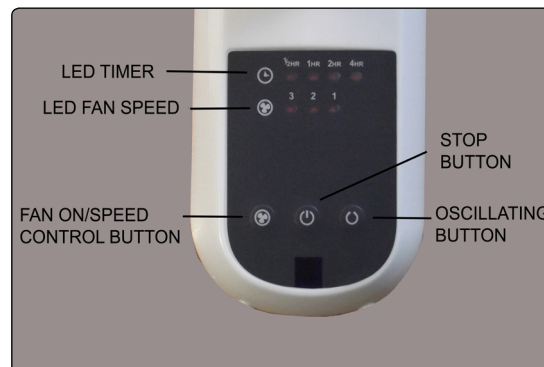

fig.6
- 5.3.1. LED TIMER :- Visual display of time setting can only be set from remote control. fig.6.
- 5.3.2. LED FAN SPEED :- Visual display of speed. fig.6.
- 5.3.3. FAN ON/SPEED CONTROL BUTTON :- Press to switch on, press again to scroll through speed settings. fig.6.
- 5.3.4. OSCILLATING BUTTON :- Press to switch on oscillation, press again to switch off oscillation. fig.6.
- 5.3.5. STOP BUTTON :- Switches fan off. fig.6.